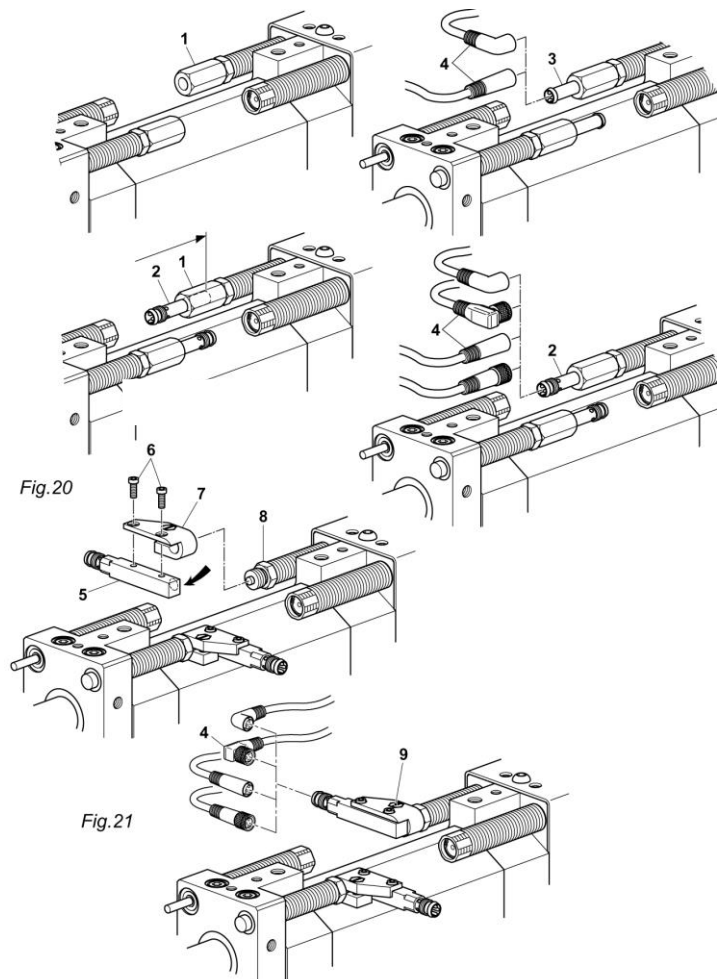

Fig. 16 Mounting initiator 8x8 mm
Depending on the controller type, the switching type PNP or NPN of the initiators must be determined (Fig. 16).
1. Screw the initiator (Fig. 16, 5) onto the initiator holder (Fig. 16, 7) with screws (Fig. 16, 6).
2. Push the holder (Fig. 16, 7) with initiator onto the stop screw (Fig. 16, 8) as far as it will go.
3. Clamp with screw (Fig. 16, 9).
4. Mount the connector (Fig. 16, 4).